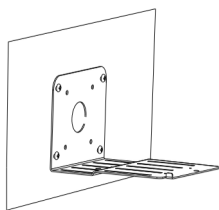

Figure 3-3
3. Align mounting bracket with hole; tighten screws . (Figure 3-3)